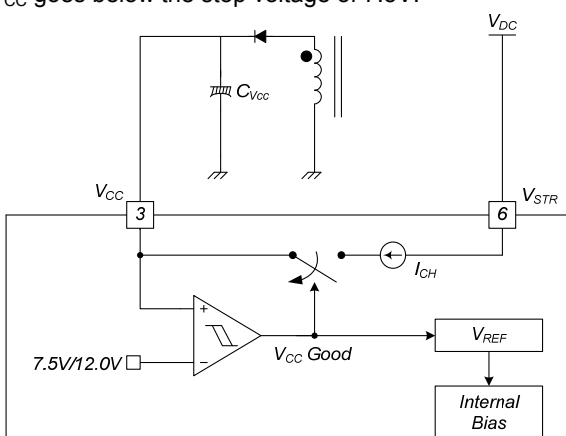

Figure 17. Startup Block
1. Startup: At startup, an internal high-voltage current source supplies the internal bias and charges the external capacitor (C_{VCC}) connected to the V_{CC} pin, as illustrated in Figure 17. When V_{CC} reaches 12V, the FSL176MRT begins switching and the internal high-voltage current source is disabled. The FSL176MRT continues normal switching operation and the power is supplied from the auxiliary transformer winding unless V_{CC} goes below the stop voltage of 7.5V.